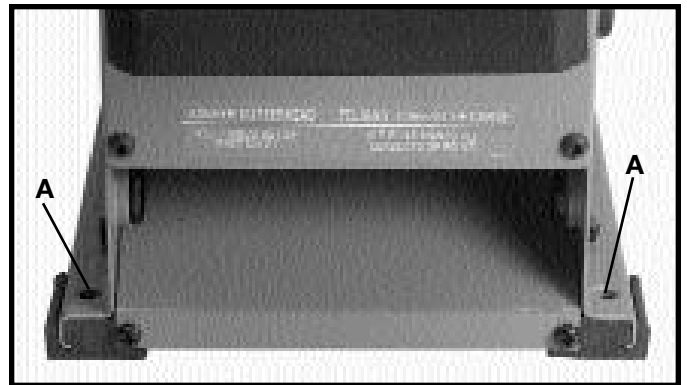

Fig. 20
If during operation, there is any tendency for the jointer to tip over, slide or walk on the supporting surface, the jointer must be secured to the supporting surface with fasteners through the four holes, two of which are shown at (A) Fig. 20, in the jointer base.